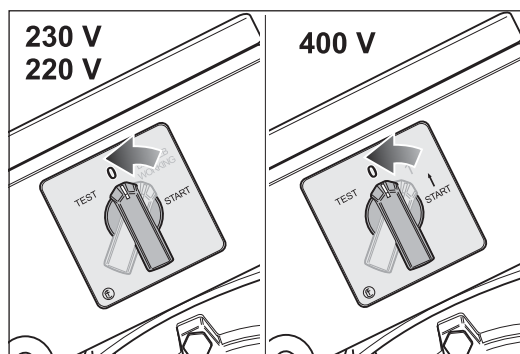

Fig. 21 To switch off the machine turn the switch button to position -0-.
- 2 Turn the switch button to position -0- (Fig. 21).